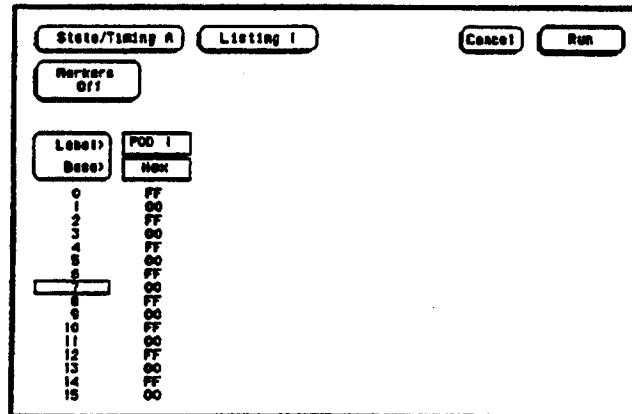

Figure 3-28. Listing Screen
6. Touch Run. The State Listing screen will be displayed and should list alternating F's and 0's as shown in figure 3-28.